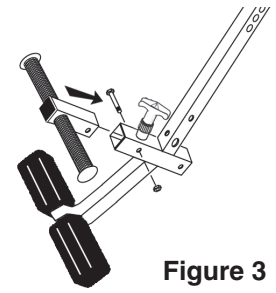

Figure 3
- Attach the CV Bar by inserting the bolt removed in Step Two through the holes located at the front of the ankle clamp housing (just under the locking pin). (See Figure 3)